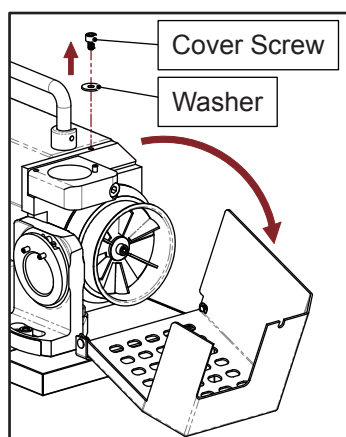

Fig. 11-2
- ③ Loosen the screw from the grinding wheel cover to open the cover. (Fig. 11-2)